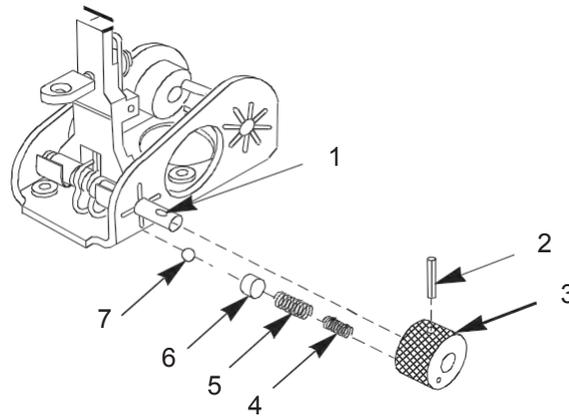

Figure 36. Machine Screw, Detent Spring, Plunger, Ball Detent, Windage Knob.
5. If machine screw (Figure 36, Item 1) is not being replaced, install new detent spring (Figure 36, Item 4), new detent spring (Figure 36, Item 5), new plunger (Figure 36, Item 6), and new ball detent (Figure 36, Item 7) into windage knob (Figure 36, Item 3) and install windage knob (Figure 36, Item 3) onto machine screw (Figure 36, Item 1). Drive in new spring pin (Figure 36, Item 2) flush.
6. If machine screw (Figure 36, Item 1) is being replaced, install new detent spring (Figure 36, Item 4), new detent spring (Figure 36, Item 5), new plunger (Figure 36, Item 6) and new ball detent (Figure 36, Item 7) into windage knob (Figure 36, Item 3).